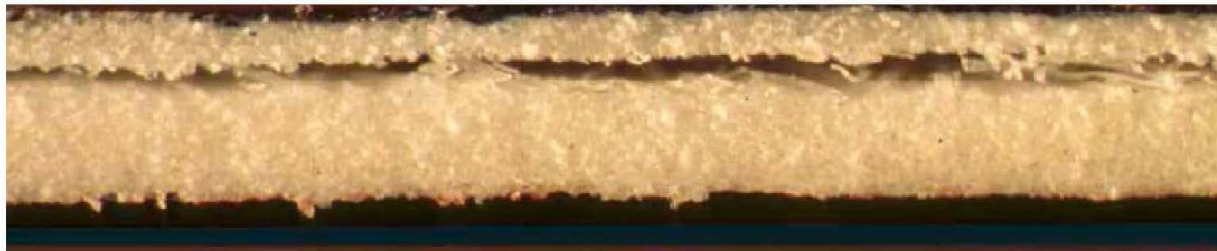

Figure 1.6 Delamination of a carton board in offset printing.
□ *Example 5)* During certain printing operations, for example as offset printing, the material is exposed to high stresses in the thickness direction which may lead to delamination, *Figure 1.6*.